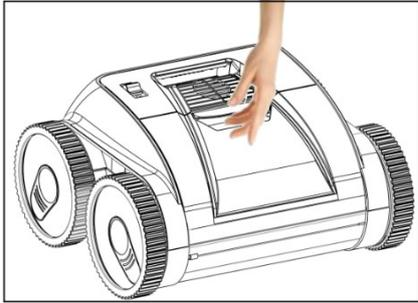
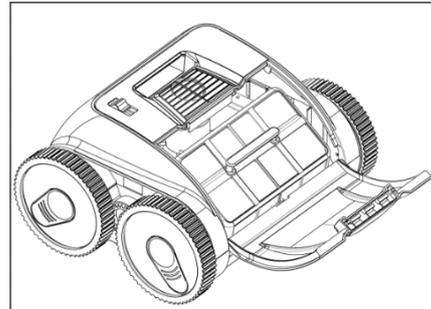

Figure 4-1
Figure 4-2
5.5.1 Remove the robot from the pool and open the top cover (Figure 4-1). The filter basket is located as show in Figure 4-2.